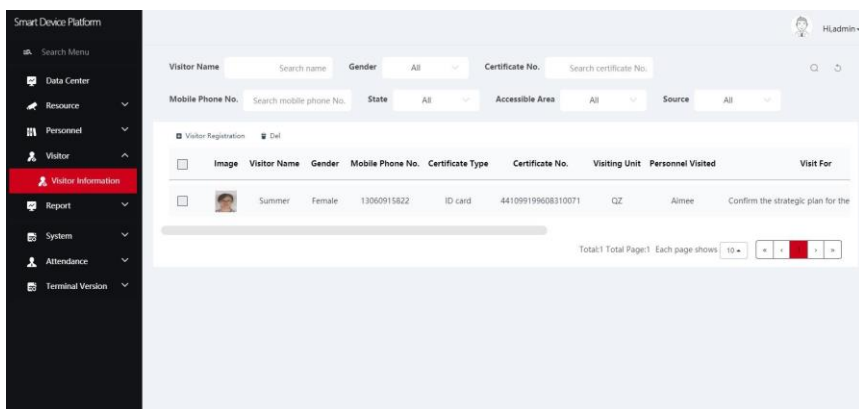

Figure 5-56
Step 1: In the smart device platform interface, click "Visitor→Visitor Information" to enter the visitor information interface, as shown in Figure 5-56 below.